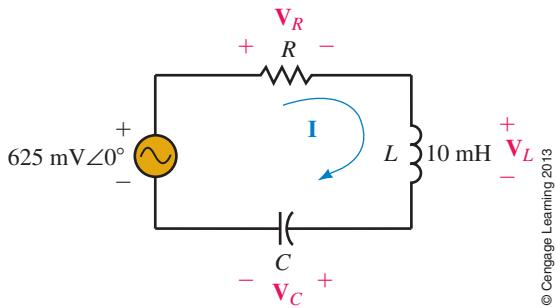

FIGURE 21-48
- Consider the circuit of Figure 21-48.